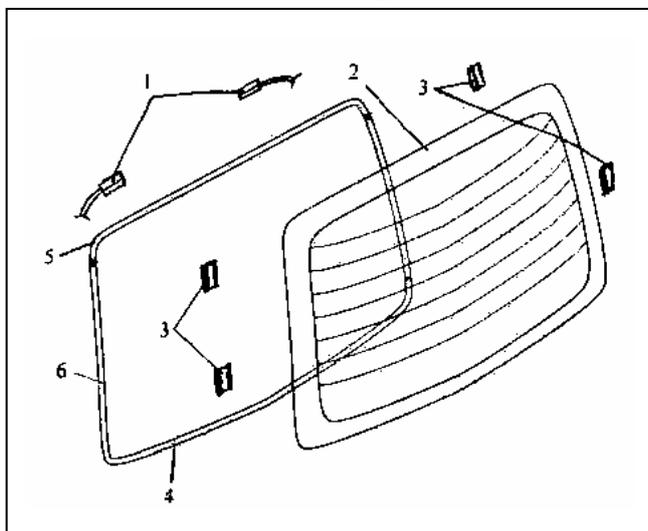

Fig. 19-26
(1) Removal sequence as shown in Fig.19-26
- ① Harness connector    ④ Weather strip lower
- ② Tail door glass    ⑤ Upper Weather-strip
- ③ Dual lock fastener    ⑥ Both side Weather-strip